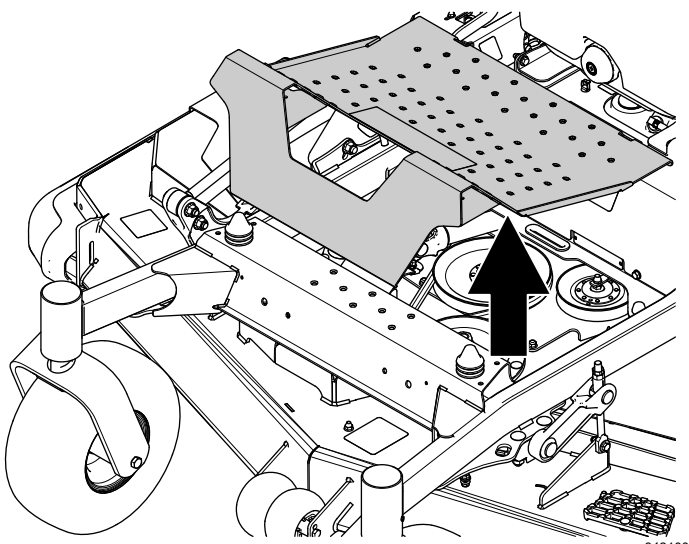

Figure 10
- Remove the floor pan (Figure 10).